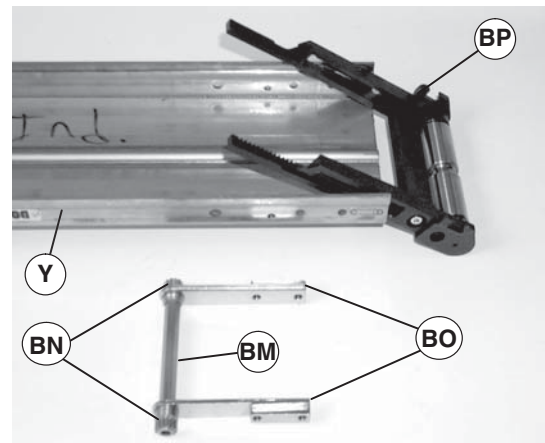

Figure 36
4. Remove two pinion ends (Figure 36, item BN), clamp blocks (BO), hex pinion (BM) and tail assembly (BP) from conveyor (Y).